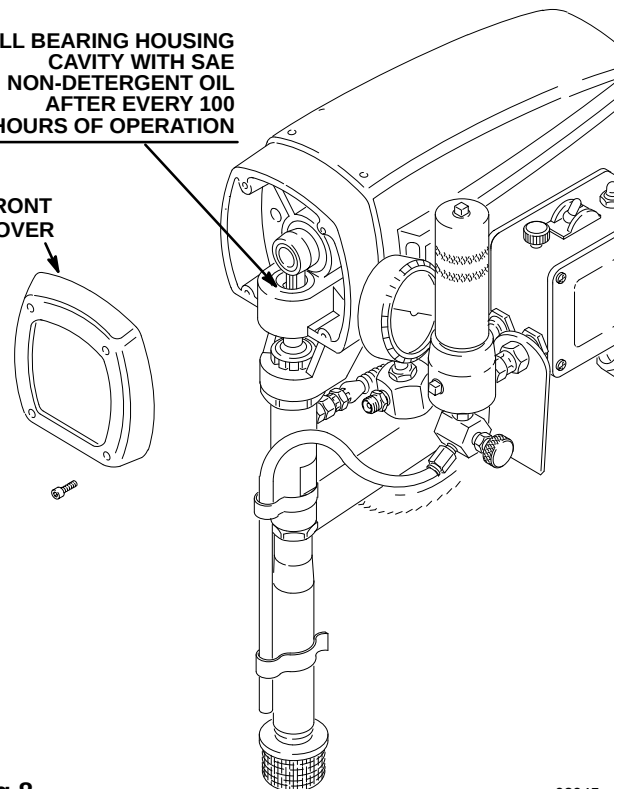

Fig 8
4. **Lubricate the bearing housing** after every 100 hours of operation. First **relieve the pressure**. Remove the front cover. Fill the bearing housing cavity with SAE 10 non-detergent oil. See Fig 8.